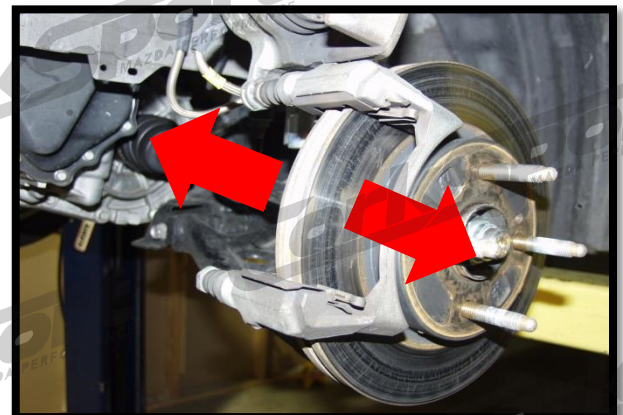

Figure 1e
- f) Remove the inner and outer brake pads from the caliper bracket (Figure 1e).